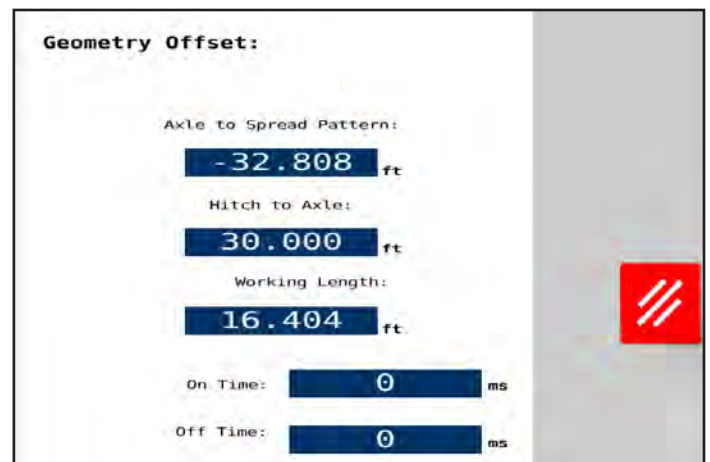

Fig.3
Press Offsets (B) to view Geometry Offset page (Fig.3).